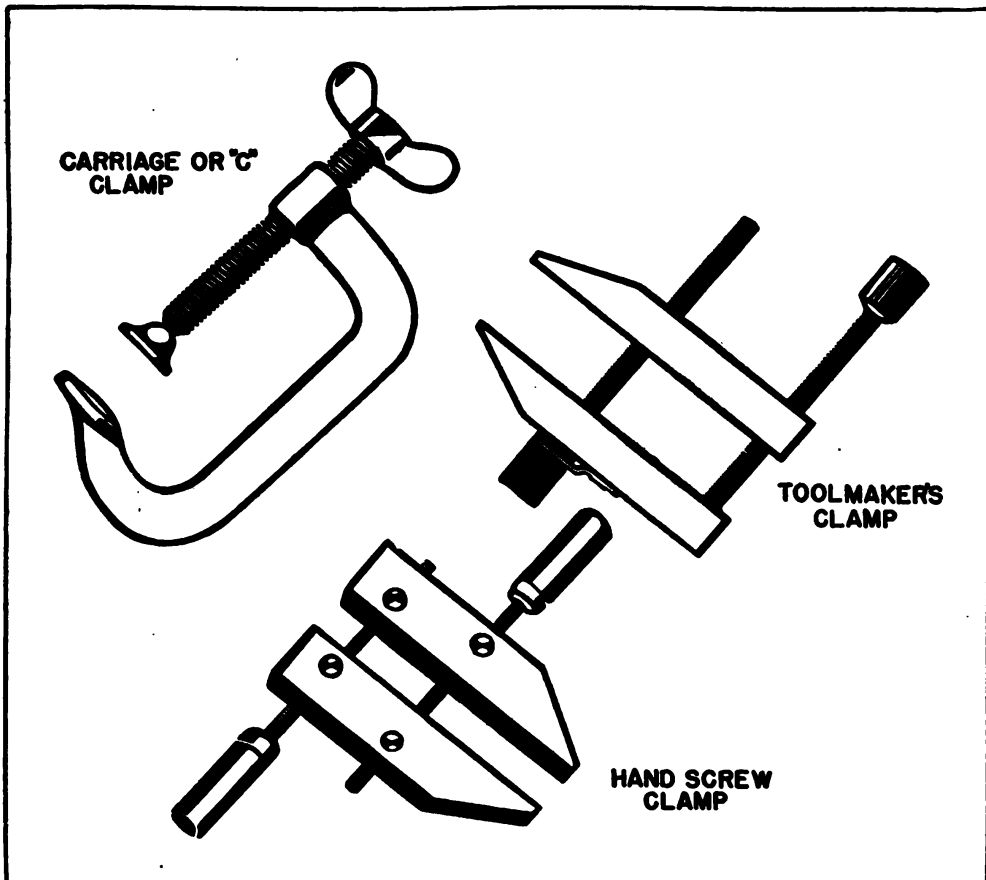

FIGURE 15.—Clamps.
(2) *Clamps*.—Clamps (fig. 15) are used for holding work outside of a vise and can be used where no vise is available. Generally they